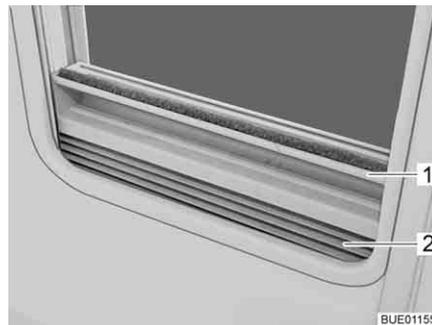

Fig. 31 Roman shade
- Closing:* ■ Grip the Roman shade (Fig. 31,2) in the middle of the holding bar (Fig. 31,1), pull it upwards and then release it at the desired height. The Roman shade will stay at this height.